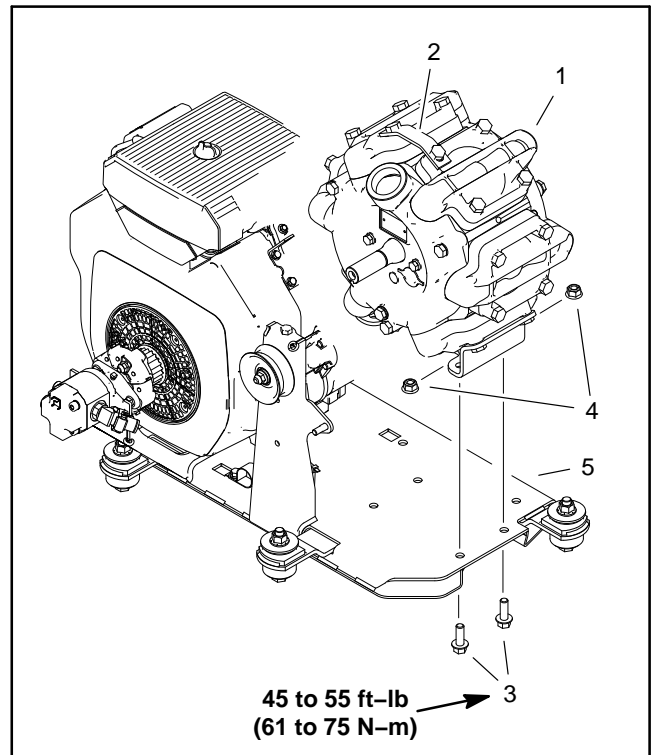

Figure 4
2. Disconnect seat switch wire harness from machine main wire harness. Raise seat and remove hair pins (item 3) from seat prop rod and from two (2) seat hinge pins (item 4). Remove seat assembly from machine.
3. Remove engine cover (item 4).
4. Remove console bottom cover (item 5).
6. Remove parking brake assembly (item 11).
7. Remove frame cross member (item 16).
10. Remove flange head screws and flange nuts that secure pump to engine and pump mounting plate (Fig. 4).
2. Install flange head screws and flange nuts that secure pump to mounting plate (Fig. 4). Tighten screws from **45 to 55 ft-lb (61 to 75 N-m)**.